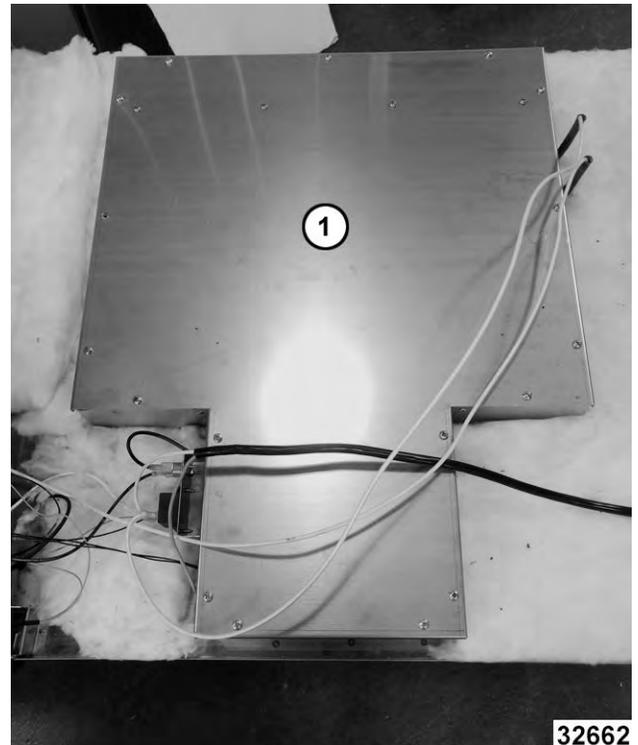

Fig. 6
4. Remove inside access cover (1, Fig. 6).